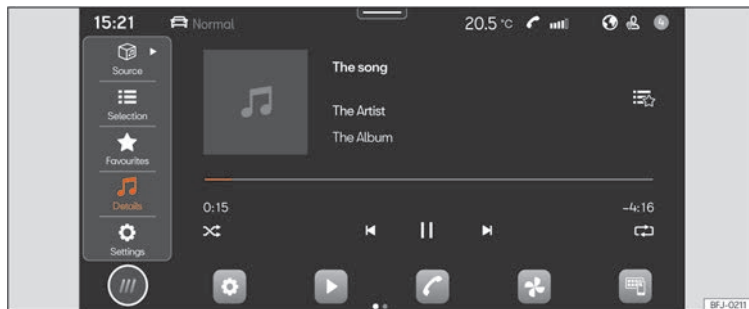

Fig.124 Schematic representation: Multimedia view
- Press **HOME** > ► > ► **Fig. 124**.